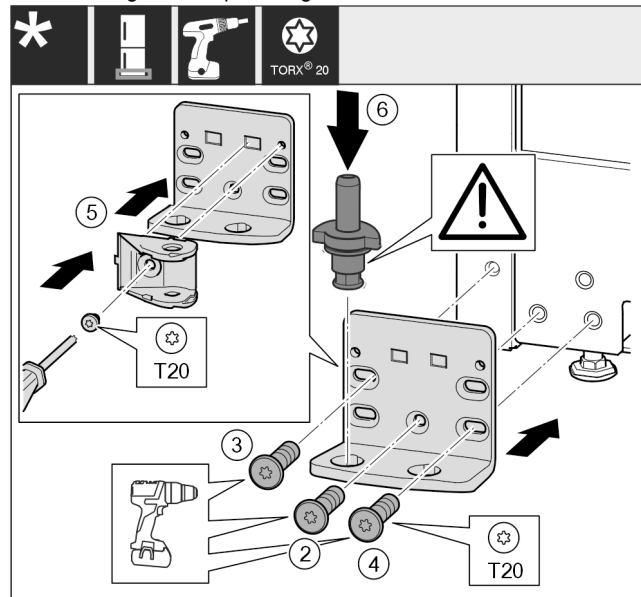

Fig. 18
- Place the swap bearing block on the other side and use a screwdriver to screw it on. Start with the screw Fig. 18 (2) at the bottom in the middle.
- Tighten screw Fig. 18 (3) and screw Fig. 18 (4).